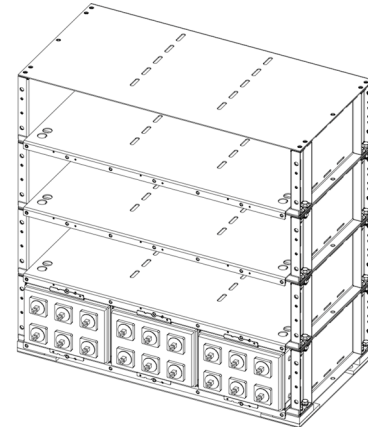

FIGURE 5
8. Place another cell module onto the shelf next to the previously placed cell module. Refer to the Assembly Drawing for the cell polarity configuration. See Figure 5.